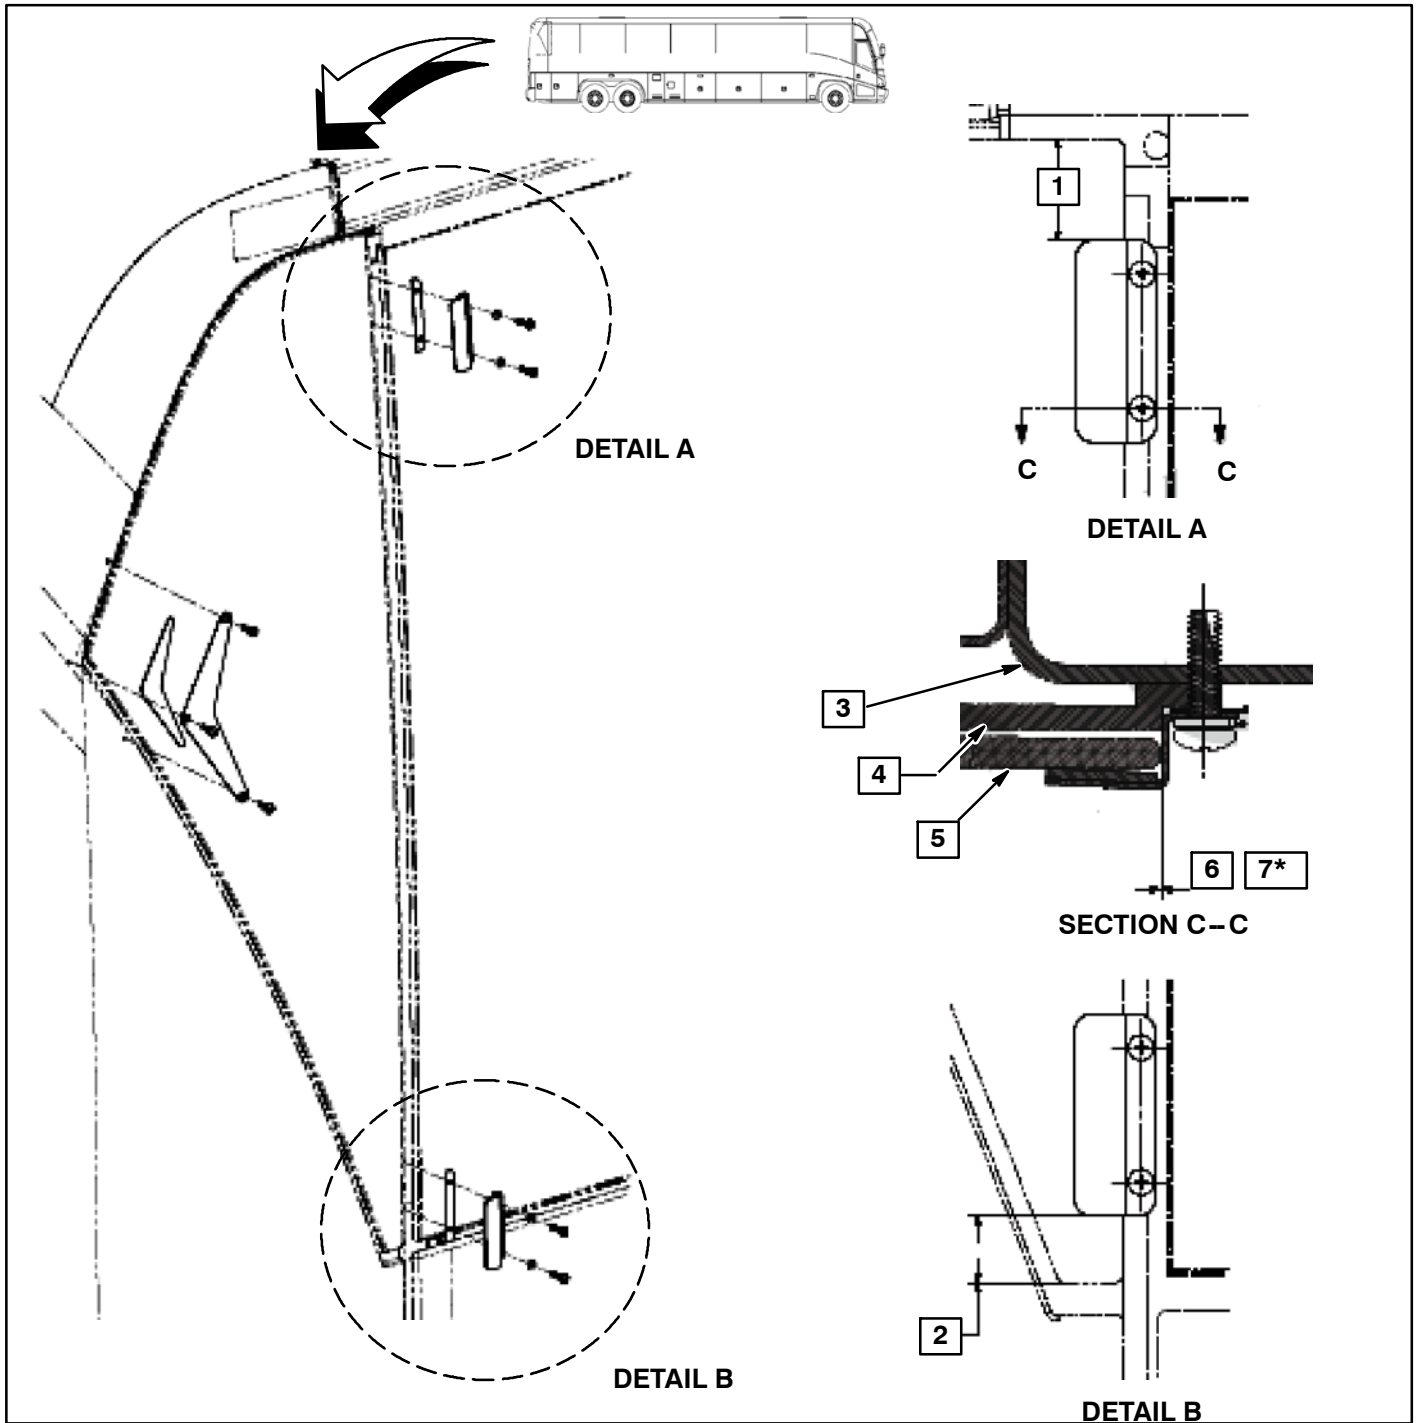

Figure 2.
4. Orient the mounting components on the installation area per the dimensions shown in Figures 2 and 4.